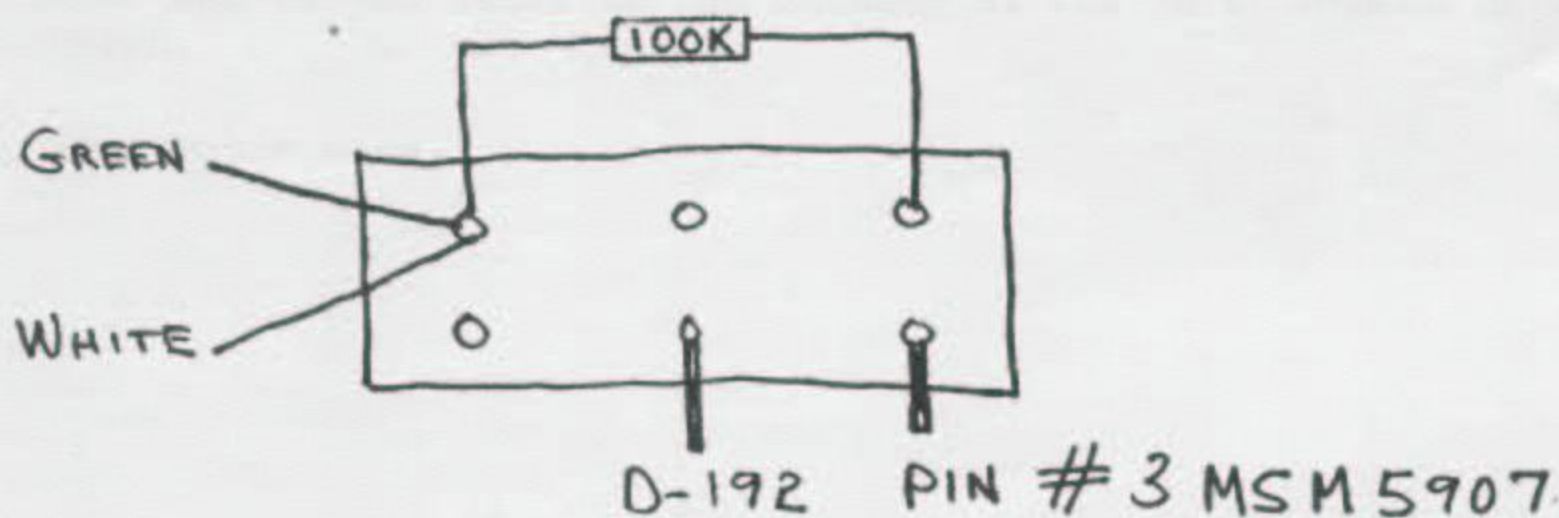

FIG 1
8. Remove One End of The 100K Resistor on The Lower Side of The S-RF Switch & Move it up One Terminal as Indicated in Figure 1.
9. Connect the White & Green Wires to the Same Point as the One End of the 100K Resistor you Moved up one Terminal as in Figure 1.